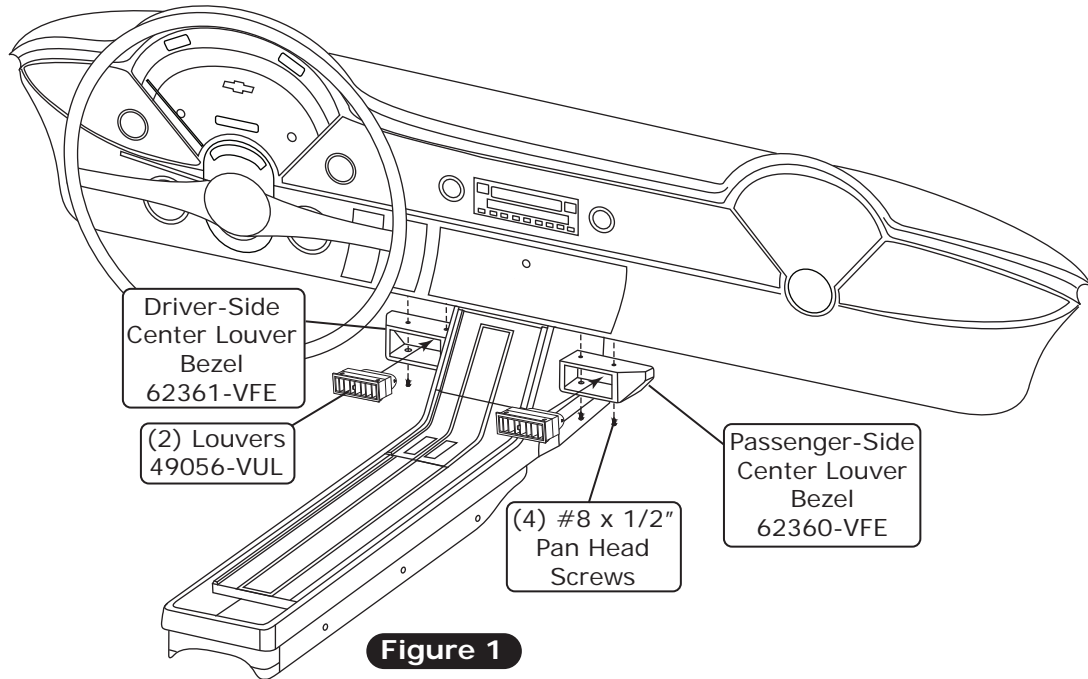

Figure 1
1. Mount the driver- and passenger-side center louver bezels under the dash using (4) #8 x 1/2" pan head screws as shown in Figure 1, below.
2. Install the louvers into the center louver bezels as shown in Figure 1, below.
NOTE: When installing the heater control valve, make sure the arrow is facing toward the evaporator module (See Figure 1, below). Measurements given for heater hose lengths in the instructions are recommended but may be modified for different applications.